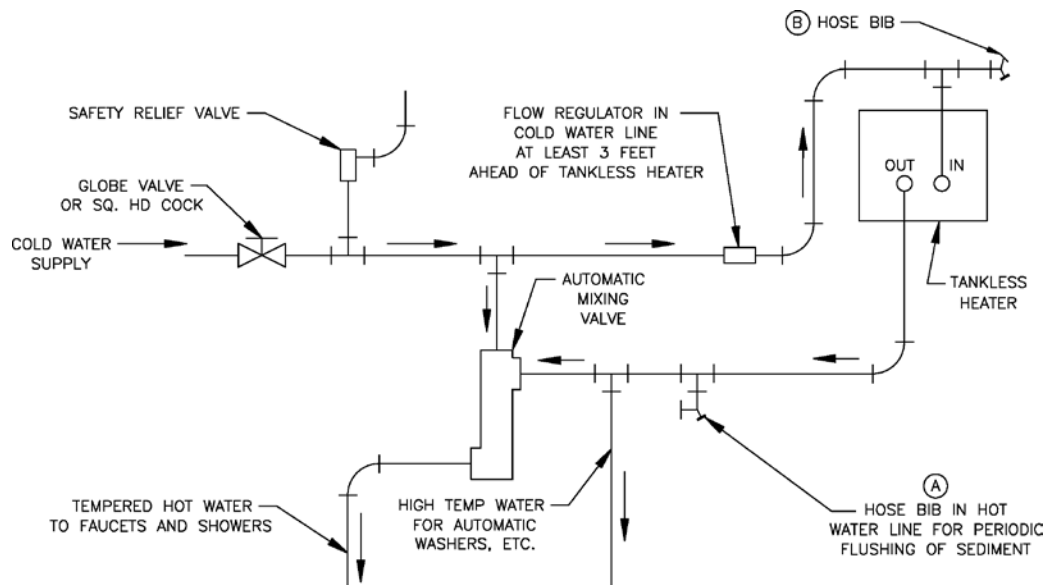

Figure 12: Schematic Tankless Heater Piping
- G. CONNECT TANKLESS HEATER PIPING AS SHOWN IN FIGURE 12.** See Table 1 for Tankless Heater Rating.
required by dishwashers and automatic washers is possible by piping the hot water from the heater prior to entering the mixing valve. The mixing valve should be "trapped" by installing it below the cold water inlet to heater to prevent lime formation in the valve. Refer to Figure 12.